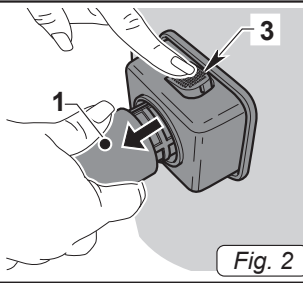

Fig. 2
- To release the sleeve (1 Fig. 2) press and hold the button (3 Fig. 2) and then pull out the sleeve (1 Fig. 2).